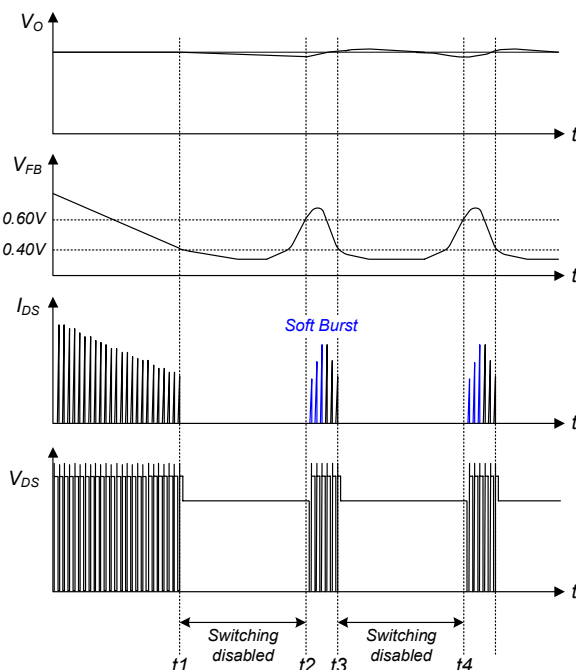

Figure 23. Burst-Mode Operation
5. Soft Burst-Mode Operation: To minimize power dissipation in standby mode, the FSGM0565RB enters burst-mode operation. As the load decreases, the feedback voltage decreases. As shown in Figure 23, the device automatically enters burst mode when the feedback voltage drops below V_{BURL} (400mV). At this point, switching stops and the output voltages start to drop at a rate dependent on standby current load. This causes the feedback voltage to rise. Once it passes V_{BURH} (600mV), switching resumes. At this point, the drain current peak increases gradually. This soft burst-mode can reduce audible noise during burst-mode operation. The feedback voltage then falls and the process repeats. Burst-mode operation alternately enables and disables switching of the SenseFET, thereby reducing switching loss in standby mode.